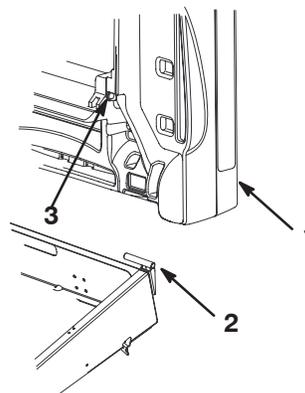

Figure 11
3. Slide the cargo box mounting hole onto the pivot bracket (Fig. 11).